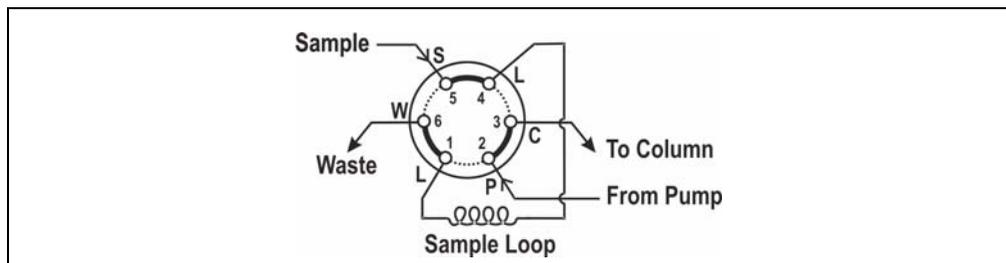

Figure B-24. Injection Valve Connections
2. Connect the outlet line from the AS40 to port S (5) of the injection valve (see Figure B-24).